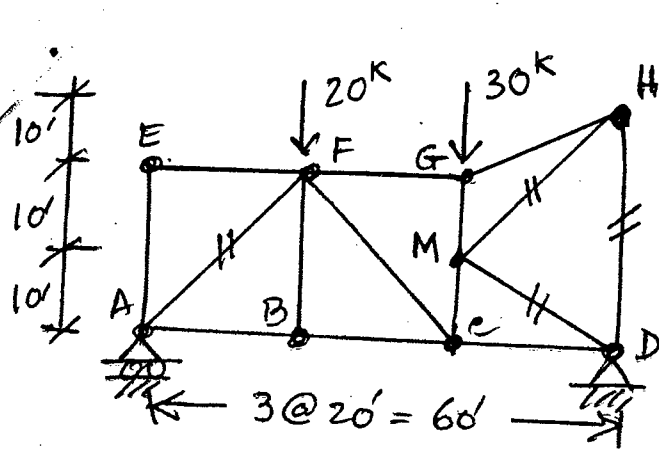

Fig. 1
1. (a) Find axial force in member AF, MD, MH and DH for the truss shown in Fig. 1.
1. (a) Define transported soil. Name the major type of transported soil and describe how each is formed. (10)
- (b) How would you classify the history of geotechnical engineering? Cite at least one example of geotechnical importance for each of a classification age. (10)
- (c) The three major categories of Bangladesh soil are found in seven physiographic tracts. Name the categories of soil, and also the physiographic tracts mentioning the administrative locations of each of the tracts. (10)
- (d) Distinguish between Soil Mechanics and Geotechnical Engineering. Explain briefly the various aspects of Geotechnical Engineers. (10)
2. (a) Grain size distribution curves for four soils A, B, C and D are shown below in Fig. 1, and LL and PL values are : soil C = 40, 16; soil D = 62, 34. Classify soil A using USCS and soil D using AASHTO soil classification system. What would be the broad classification of soils B and C as per USCS? (25)
- (b) Derive an expression for co-efficient of active earth pressure in a cohesionless soil using Rankine's method. Show also the orientation of failure plane. Write down the expression for active earth pressure in a $c-\phi$ soil and hence deduce a formula of theoretical unsupported soil for a purely cohesive soil. (25)
Fig. 1 for Question No. 2 (a)
- (c) Calculate analytically the increase in vertical stress, σ_z at a depth 8 m below the interior corner point 'P' due to a 'L' shaped building in plan Fig. 1 that exerts a pressure of 75 kN/m^2 . **(18)**
Fig 1 for Question 7(c)